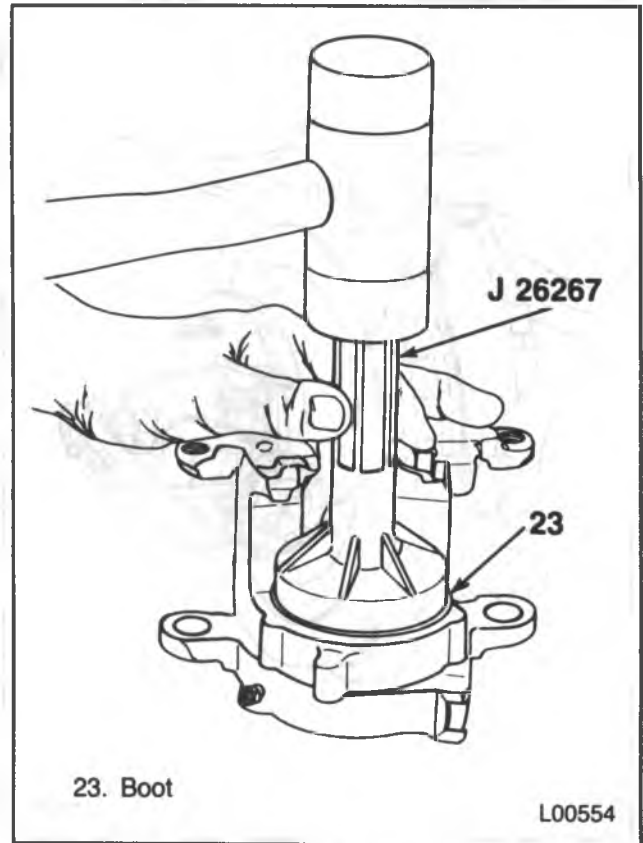

Figure 19 — Installing Caliper Piston Boot
1. Piston seal (21).
2. Boot (23) onto the piston (22).
3. Piston (22).
4. Boot (23) into the caliper housing counterbore using J 26267 (figure 19).
5. Bleeder valve (20).